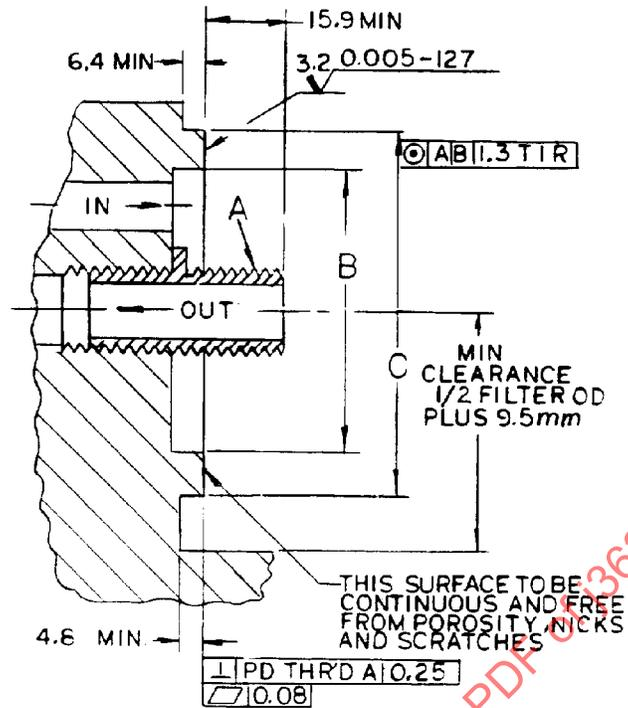

FIGURE 1—LUBRICATING OIL SPIN-ON FILTER-BASE MOUNTING
3.1 Lubricating Oil Spin-On Filter-Base Mounting—Figure 1 is a composite drawing which outlines the base mounting and clearance requirements for spin-on oil filters.